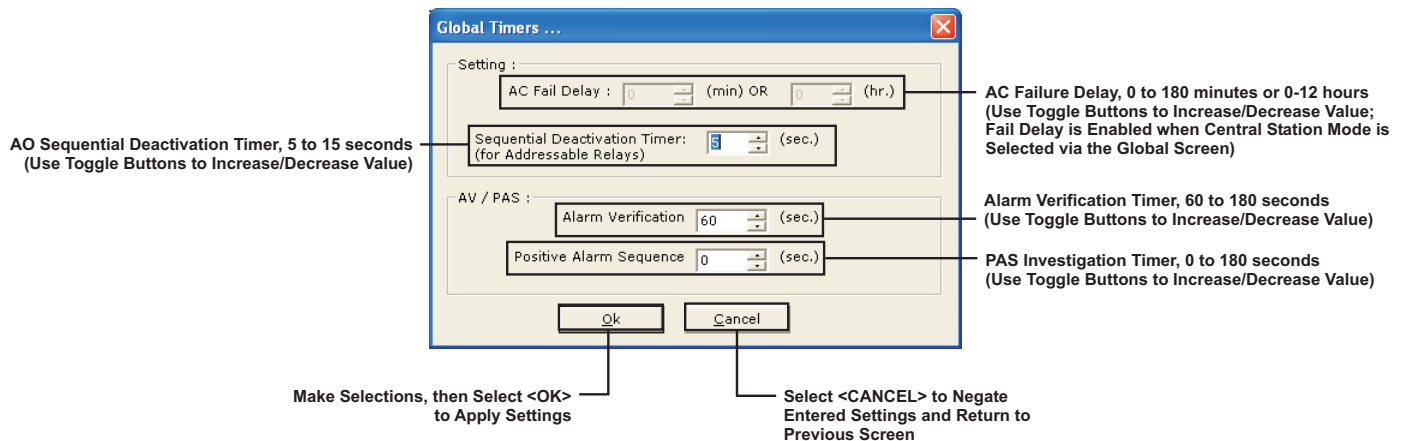

Figure 2-44. Global Timers Screen
1. Select the **<Timers>** button; Figure 2-44 displays.